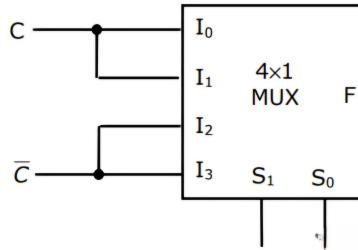

Fig. 4.10
15. Find the logic realized by the circuit in Fig. 4.10. (GATE EC 1992)